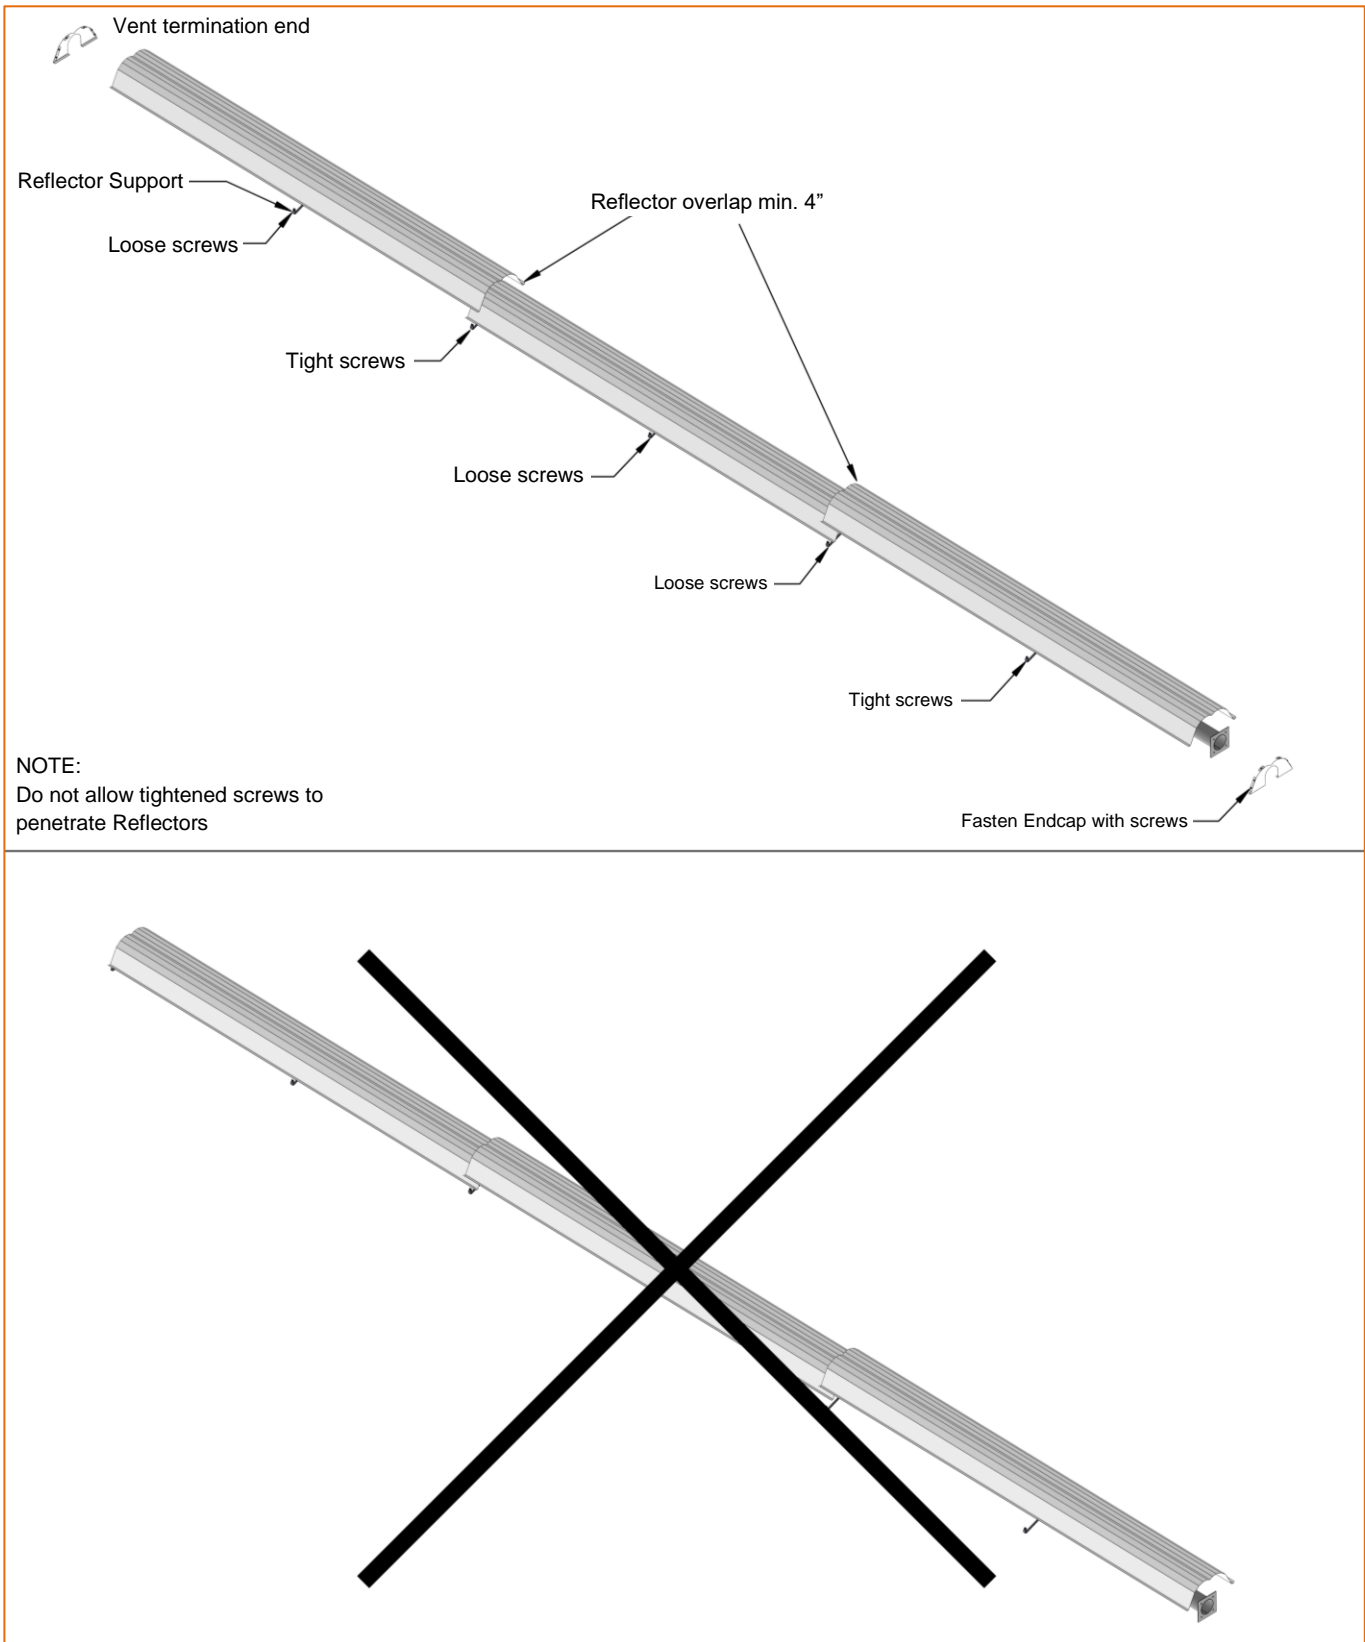

Figure 15: Reflector Overlap Illustration
**Note:** Reflectors should overlap adjacent minimum 4". Be sure not to tile reflector sections; that is, reflector sections must be either above both adjacent reflector sections, or below both adjacent reflector sections. Refer to Figure 15.